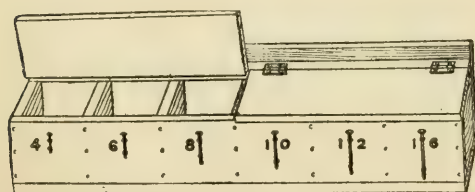

FIG. 47.
ing, and several receptacles for these are shown in Figs. 47 to 52. The
49) 6 inches wide by 6 inches high at the back and 5 inches high at the front. Nail together the front, back, and end pieces, then nail on the bottom and fasten the partitions in place so as to divide the box into six equal spaces. The box may either be screwed to the wall or hung upon hooks. If you screw it, do this before putting on the cover. Cut the hinge-strip (*E*, Fig. 49) 1 inch wide by the length of the box and nail it in place to the partition tops. The cover may be made in one piece, or in two as in Fig. 47; hinge it to the hinge-strip. Mark the sizes of the nails upon the front of the box, and fasten nails of corresponding sizes in front of the receptacles with small staples or bent-over brads to help you to associate the lengths with the size numbers. This box has been planned for *common nails* and to hold sizes ranging from  $1\frac{1}{2}$  inches to  $3\frac{1}{2}$  inches long (4-penny to 16-penny).